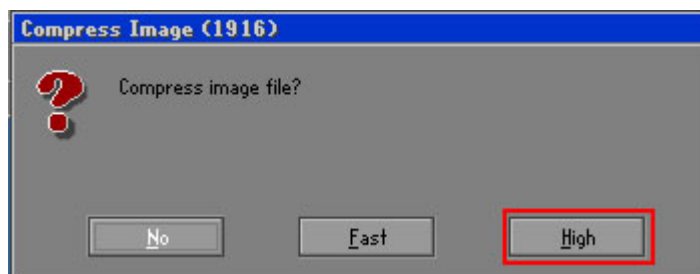

Figure A-14: Compress Image
Step 8: When the Compress Image screen in **Figure A-14** prompts, click **High** to make the image file smaller.